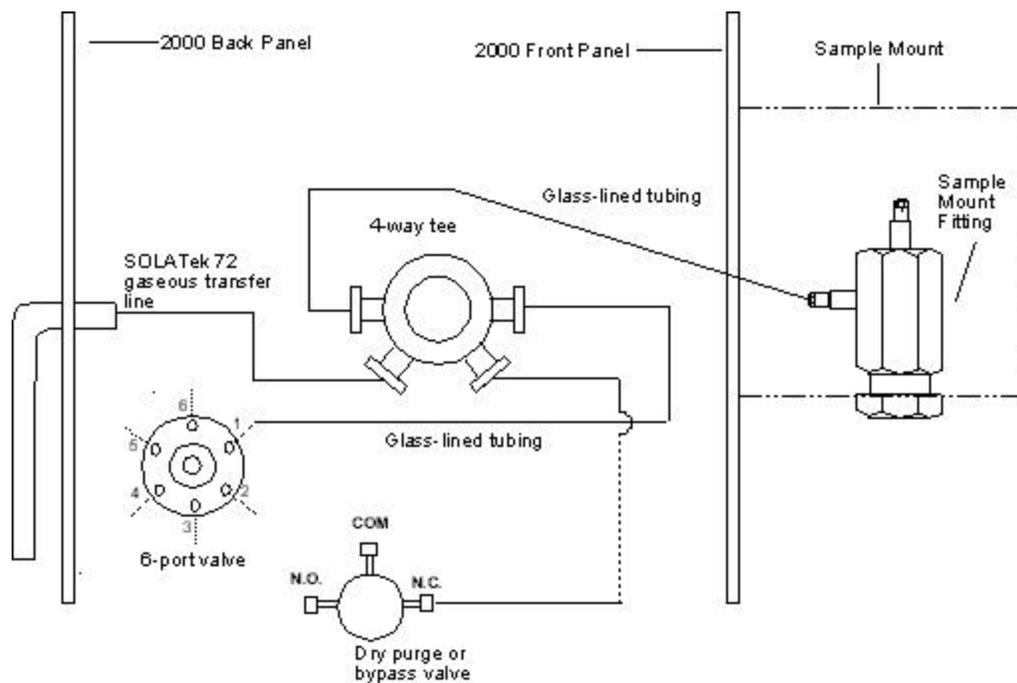

Figure 4-8: Connecting Tubing to the 4-Way Tee Inside the 2000
- Use the 1/16" graphite vespel ferrule (14-2931-016) and the nut provided with the 4-way tee to connect the tubing to the left side of the 4-way tee (Figure 4-8).